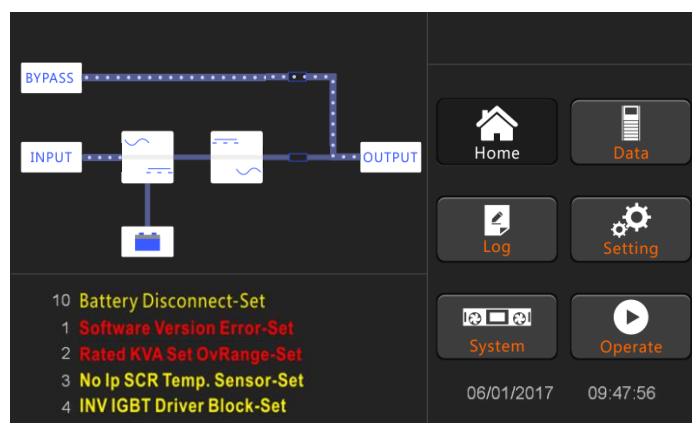

Fig.4-2 Interface of bypass starting
5. After about 30S, the rectifier start is completed, the bypass static switch is on, and the bypass indicator flashes. As shown in Fig.4-2